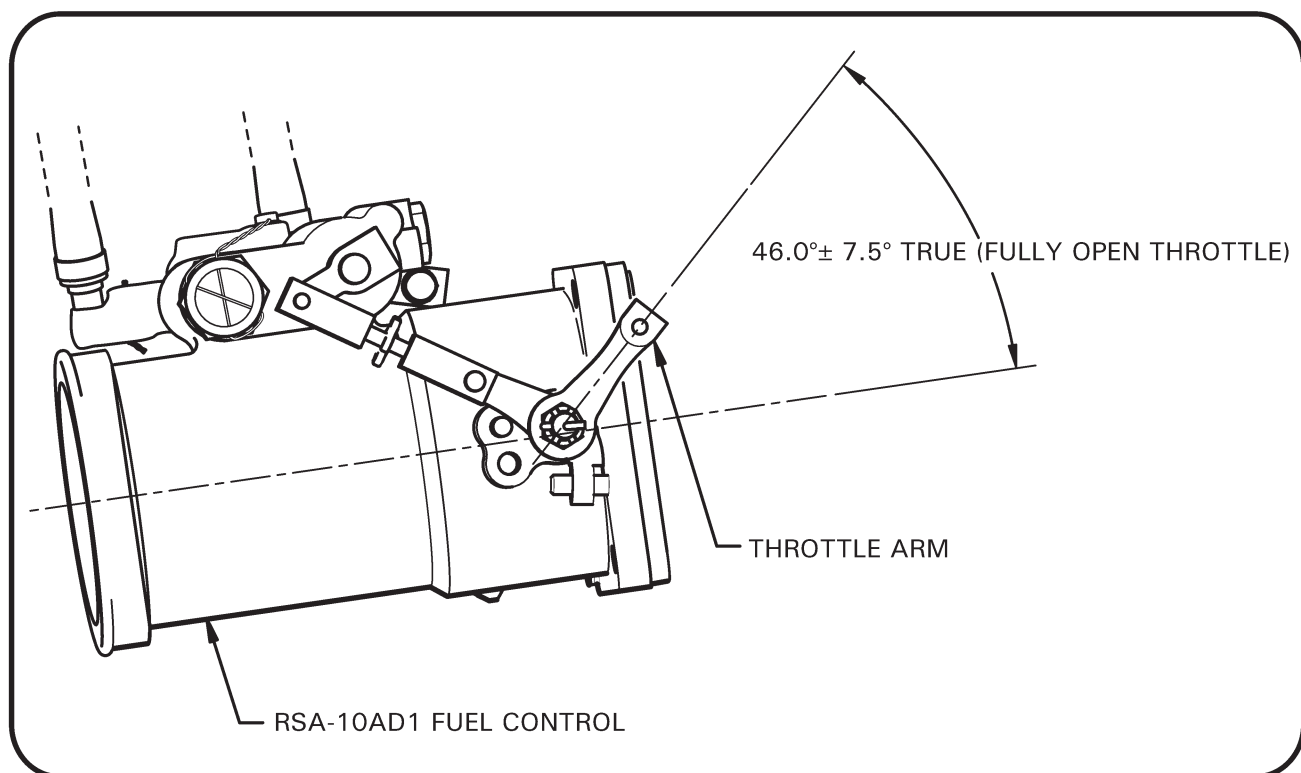
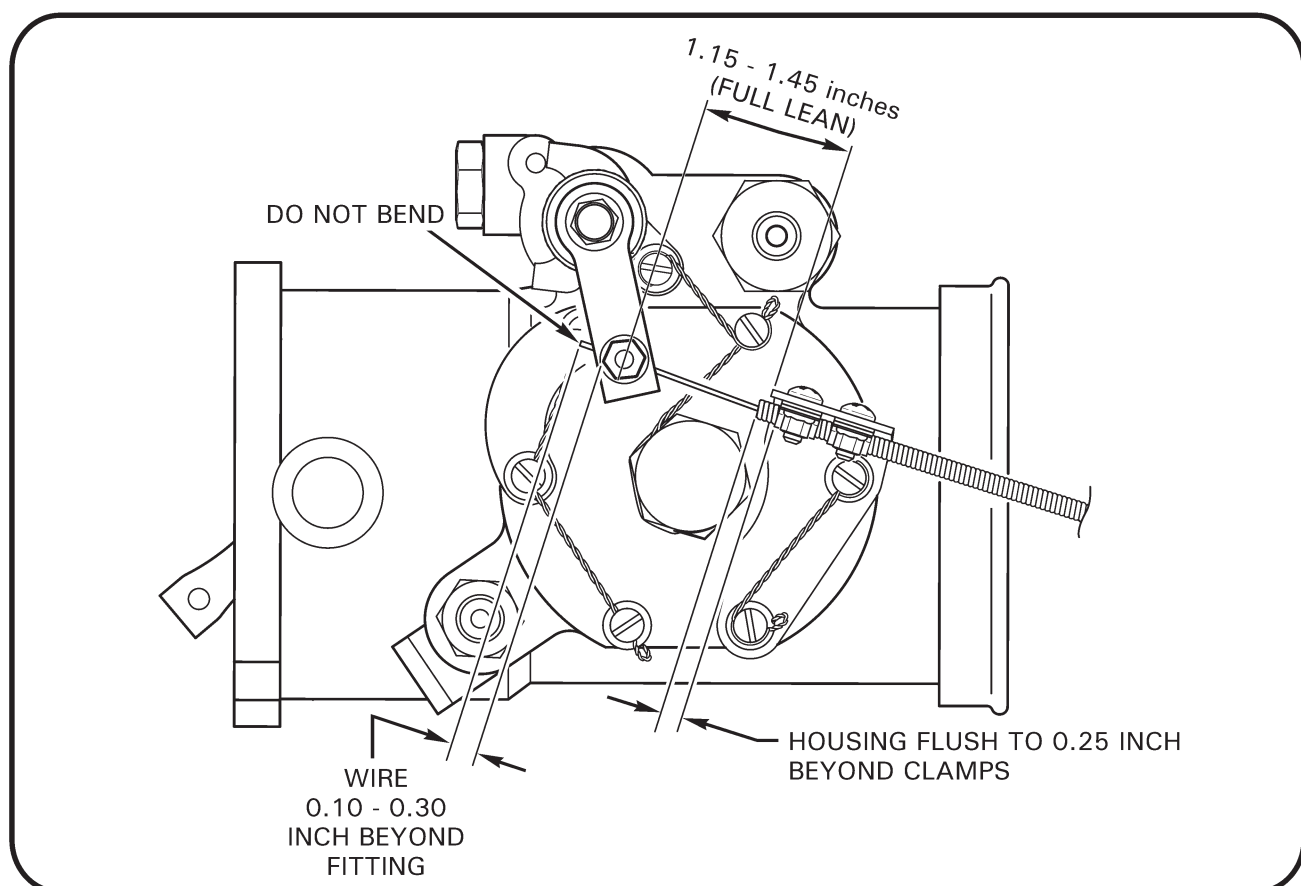

FIGURE 6-7 IO-540 THROTTLE ARM ADJUSTMENT
FIGURE 6-8 IO-540 MIXTURE CABLE INSTALLATION
3. Verify correct full-open throttle arm angle per Figure 6-7 and full-lean mixture arm distance per Figure 6-8. Adjust as required.
- | 8. Refer to Figure 6-8. Connect mixture cable housing to bracket with housing flush-to-0.25 inch extended beyond clamps. Connect mixture control cable inner wire to mixture control arm. Ensure A130 spacer lubricated with A257-1 grease. Verify full travel and 0.03-0.10 inch clearance under mixture control knob when full rich. Mixture control inner wire should protrude 0.10-0.30 inch beyond A462 fitting securing wire to mixture control arm and control wire. If wire cannot rotate relative to mixture arm the A130 spacer in fitting may be missing or damaged; replace as required.